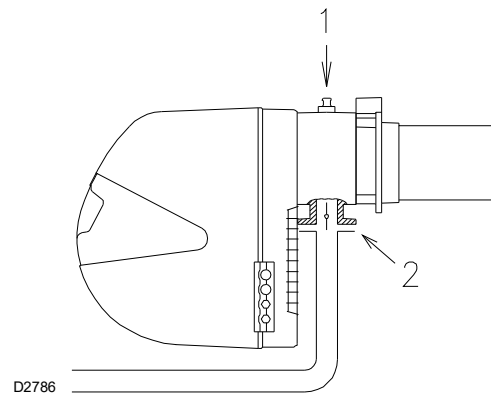

Fig. 27
Gas manifold pressure measured at test point 1)(Fig. 27), with:
- subtract the combustion chamber pressure from the gas pressure measured at test point 1)(Fig. 27).
- Gas pressure at test point 1)(Fig. 27) = 3.66" WC